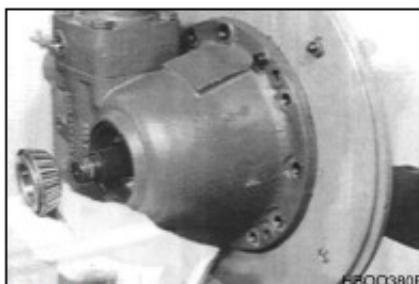

Figure 54
5. Insert drive pinion into axle carrier, heat and install inner bearing race. See Figure 54.